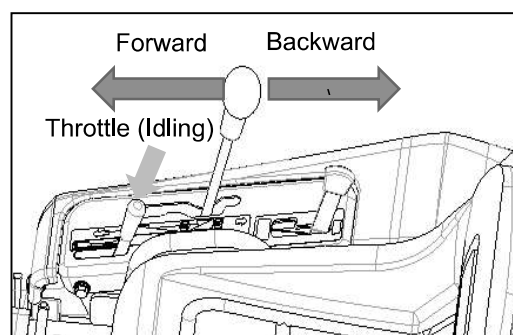

Figure 15
- **Tilt the change lever by half to FORWARD and BACKWARD for 10 seconds and then, return the change lever to neutral position. (Figure 15)**